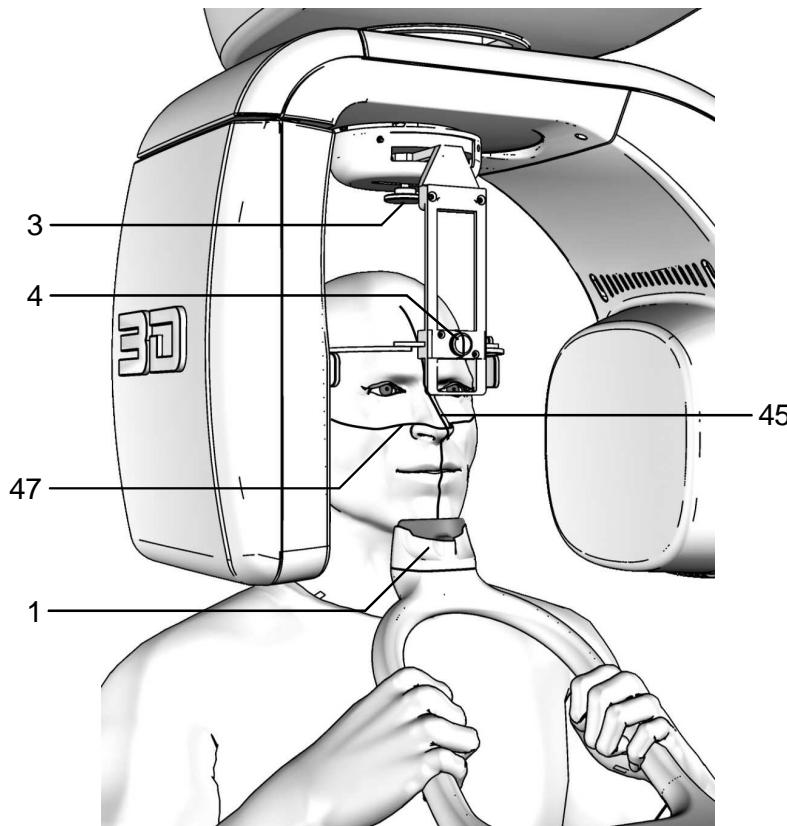

Figure 19 - 3D Dentition positioning
4. Verify that the temple clamp device is in the central position (Figure 10), and if necessary move it using the appropriate control on the top of the support (Figure 19).
6. Place the patient in the temple clamp (Figure 19) by placing the chin on the surface of the relevant support; the hands should rest on the front handgrips.
9. Press the key "Centring devices ON" (14)
(7)  to begin preparation for exposure.
10. Place the temple clamp in contact with the patient's head by means of the appropriate knob (Figure 19). In order to help the patient maintain the correct posture, use the head strip on the temple clamp passing it behind the nape of the patient's neck; check that, during this phase, the patient has not changed position.
12. Press the key "Patient Entrance" (7)  to confirm the parameters. The luminous centring devices switch off and the rotating arm goes to its examination start position. Once alignment has been completed, the following message will be displayed: